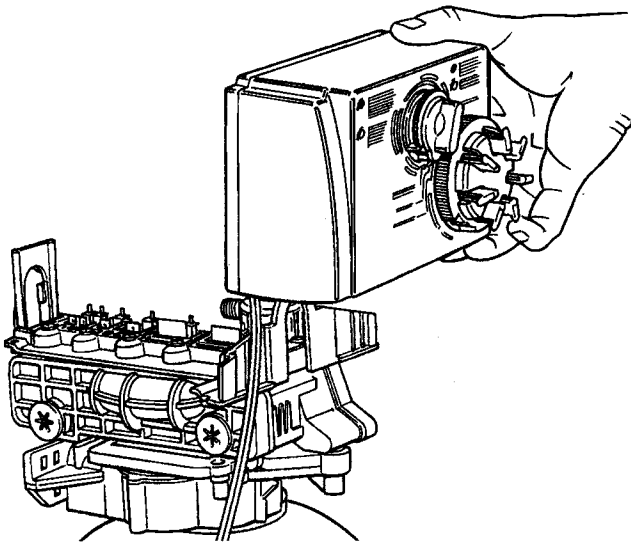

Figure 13
5. Lift the timer off the valve, Figure 13.